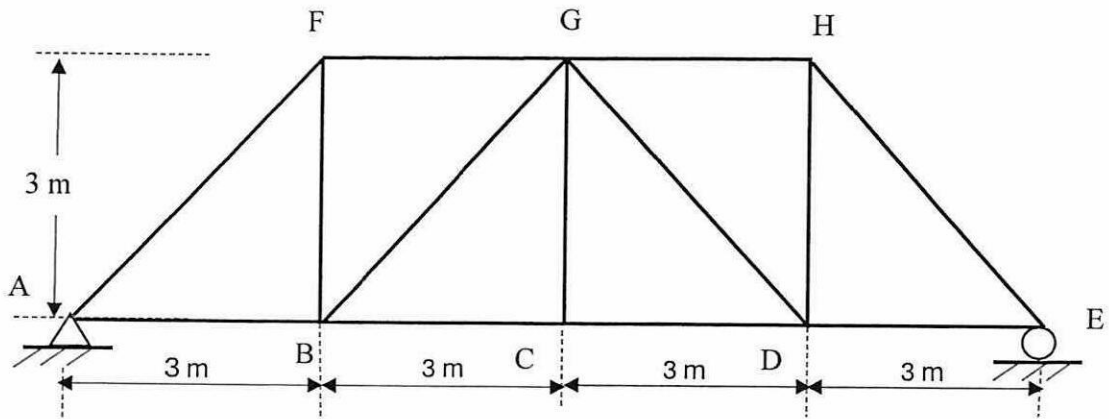

Figure Q3.2 2-D Truss
- (b) Construct the influence line for the force in member FG in the 2-D truss illustrated in Figure Q3.2.